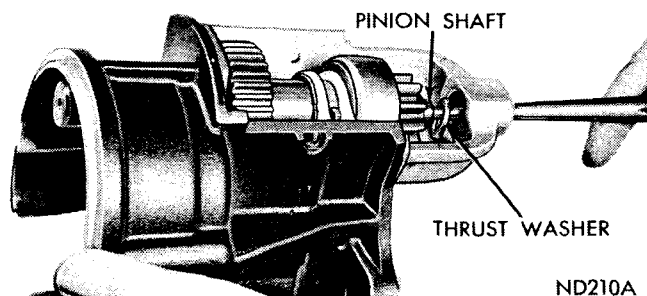
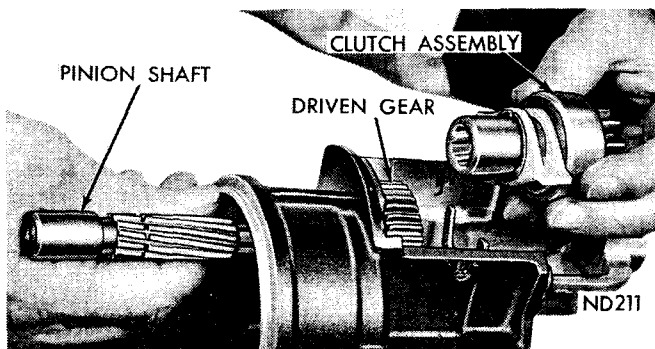
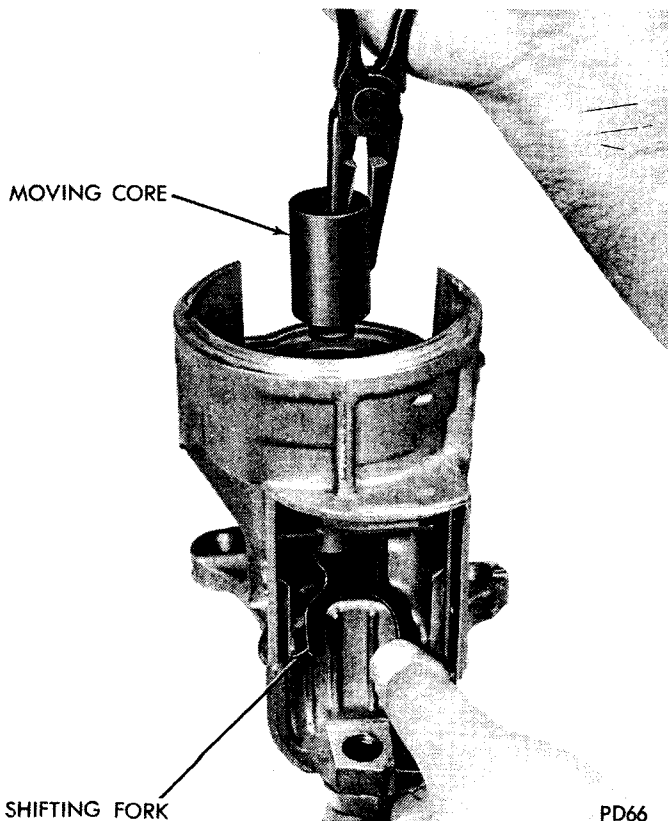

Fig. 17—Removing Pinion Shaft
Fig. 18—Removing Clutch Assembly
Fig. 19—Removing Solenoid Core
(18) Push pinion shaft towards rear of housing (Fig. 17) and remove retainer ring and thrust washers, clutch and pinion assembly, with the two shift fork nylon actuators as an assembly (Fig. 18).
(19) Remove driven gear and friction washer.
(20) Pull shifting fork forward and remove solenoid moving core (Fig. 19).
(2) Install solenoid moving core and engage shifting fork (Fig. 19).
(3) Enter pinion shaft into drive housing and install friction washer and drive gear.
(4) Install clutch and pinion assembly, thrust washer, retaining and thrust washer (Fig. 18).